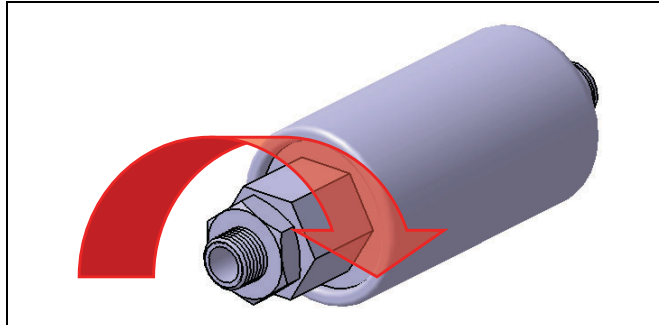

Figure 4-43 PTFE tape installation direction⁶
- Install the tape in the clockwise direction, as viewed from the end with the open thread. Start at the end of the threads, and work toward the pressure sensor body. See Figure 4-43.